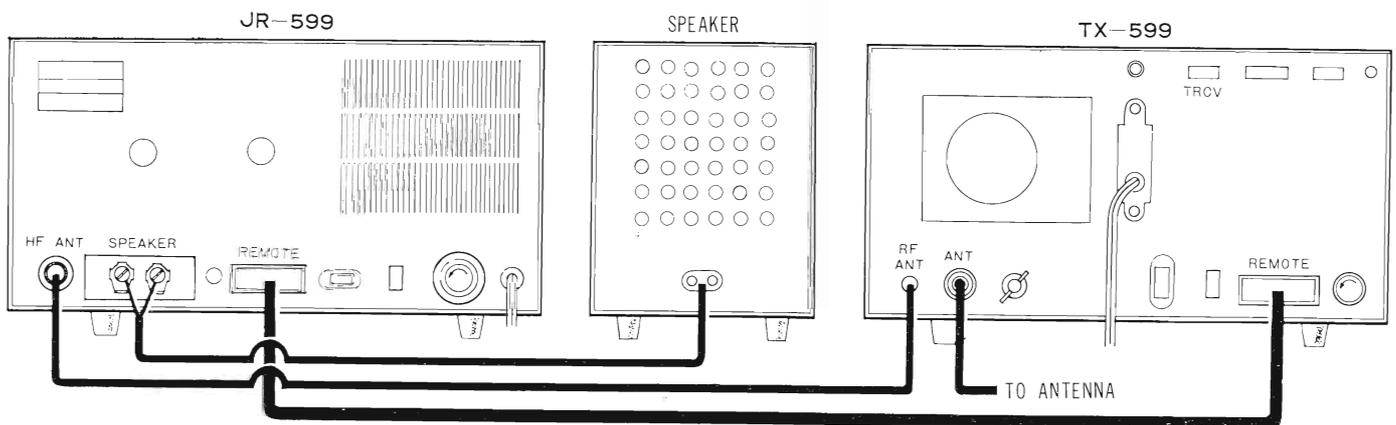

Fig. 6 Connection Diagram for a Combination of models JR-599 and TX-599
- (1) Connect between the REMOTE terminals on the models TX-599 and JR-599 as shown in Fig. 6 using the connecting cable with 16-pin connector supplied with the model TX-599.